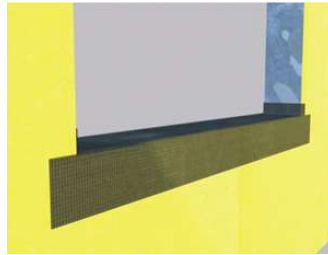

Fig. 2
- 3) Immediately lay the AquaFlash Mesh into the wet material and brush smooth adding additional material to completely embed the mesh - **Figure 2.**